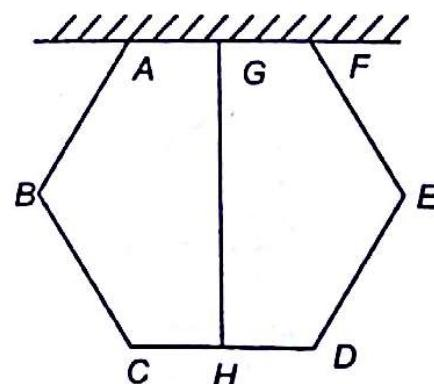

Fig. 9.24
9.2 A hexagon frame is made up of six bars of equal weight and equal length as shown in Fig. 9.24. Rod AF is fixed in a horizontal plane. A rod GH is fixed at the mid-points of rods AF and CD. If weight of each rod is W , then by using the principle of virtual work show that tension in member GH is equal to $3W$.